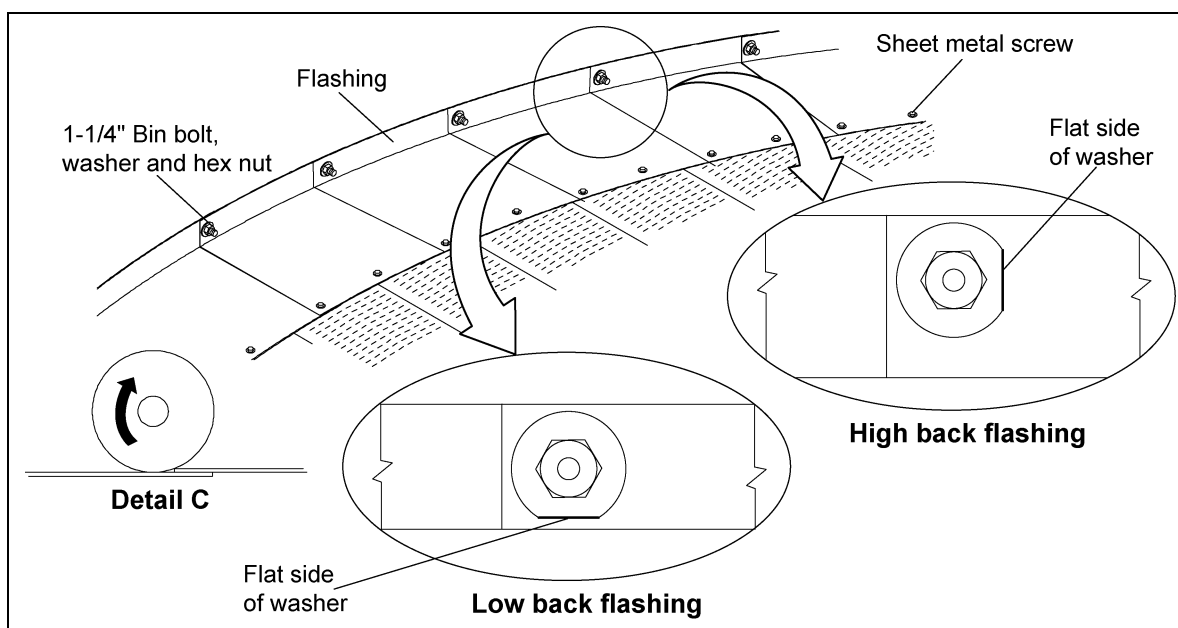

Figure 6A
If a bin sweep auger will be used, overlap flashing (D) so that the sweep will climb up on to the next flashing (D) section when rotating (usually clockwise). *(See Figure 6A.)* This will prevent the rotating/slipping out wheel of the sweep from catching on the flashing edges. *(All GSI power sweeps and carry-in sweeps manufactured after April 2002 run clockwise.)*